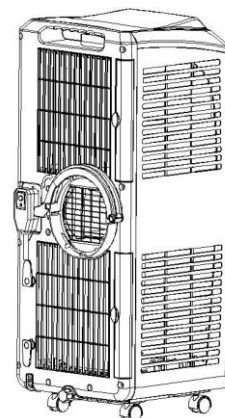

Figure 2
- 3). Rotate the C clamp buckle and set into place counterclockwise to clip the snap joint of the C clamp buckle successfully through the guide of the swivel shaft at the back vent as shown in Figure 2.